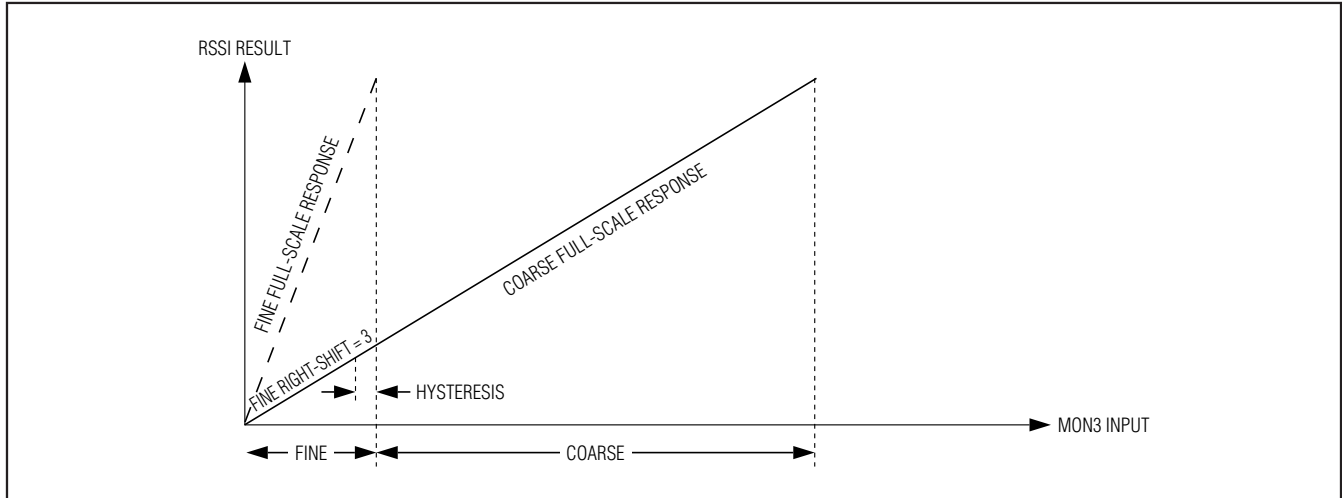

Figure 9. RSSI with Crossover Disabled
- Crossover Disabled:** The crossover disabled mode is intended for systems with a linear relationship between the MON3 input and desired ADC result. The ADC result transitions between the fine and coarse ranges with hysteresis (Figure 9). In crossover disabled mode, the thresholds between coarse and fine mode are a function of the number of right-shifts being used. With the use of right-shifting, the fine-mode full scale is programmed to  $(1/2^{nth})$  of the coarse-mode full scale. The device now auto ranges to choose the range that gives the best resolution for the measurement. Table 4 shows the threshold values for each possible number of right-shifts.